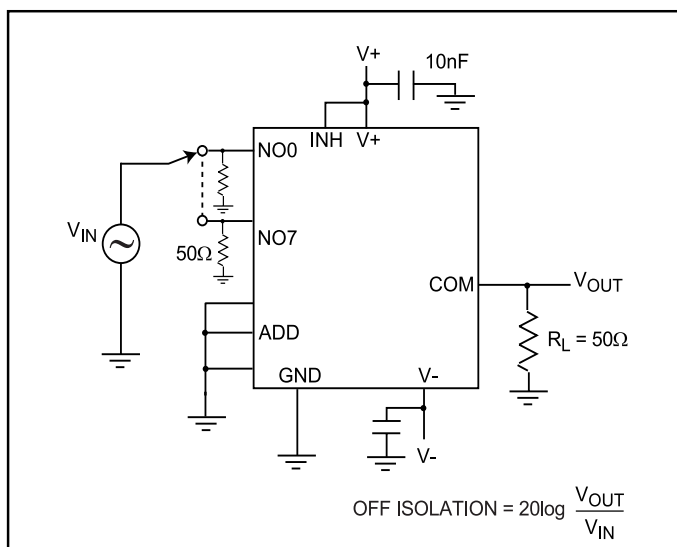

Figure 5. Off Isolation
7. Off Isolation = $20 \log_{10} V_{COM} / V_{NO}$. See Figure 5.